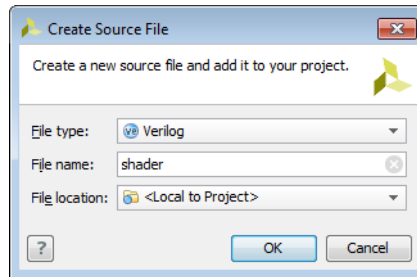

Figure 3-3: Create Source File Dialog Box
4. In the Create Source File dialog box (Figure 3-3, page 49), set the following options, and click **OK**: